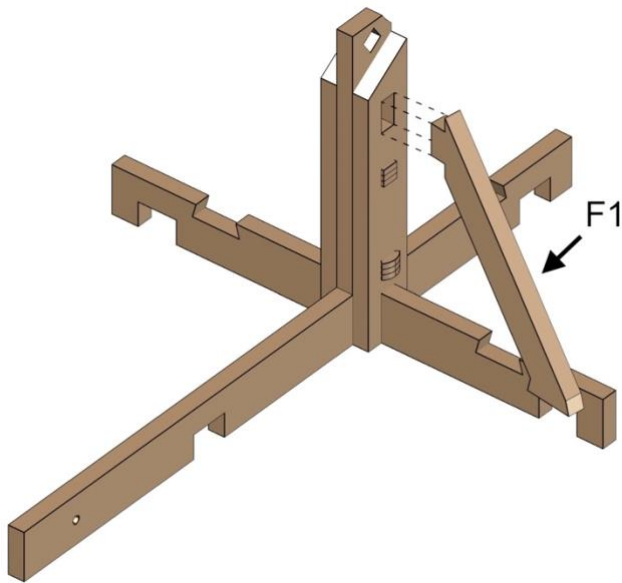

Fig. 41
- Align parts exactly as shown in *Fig. 41*.